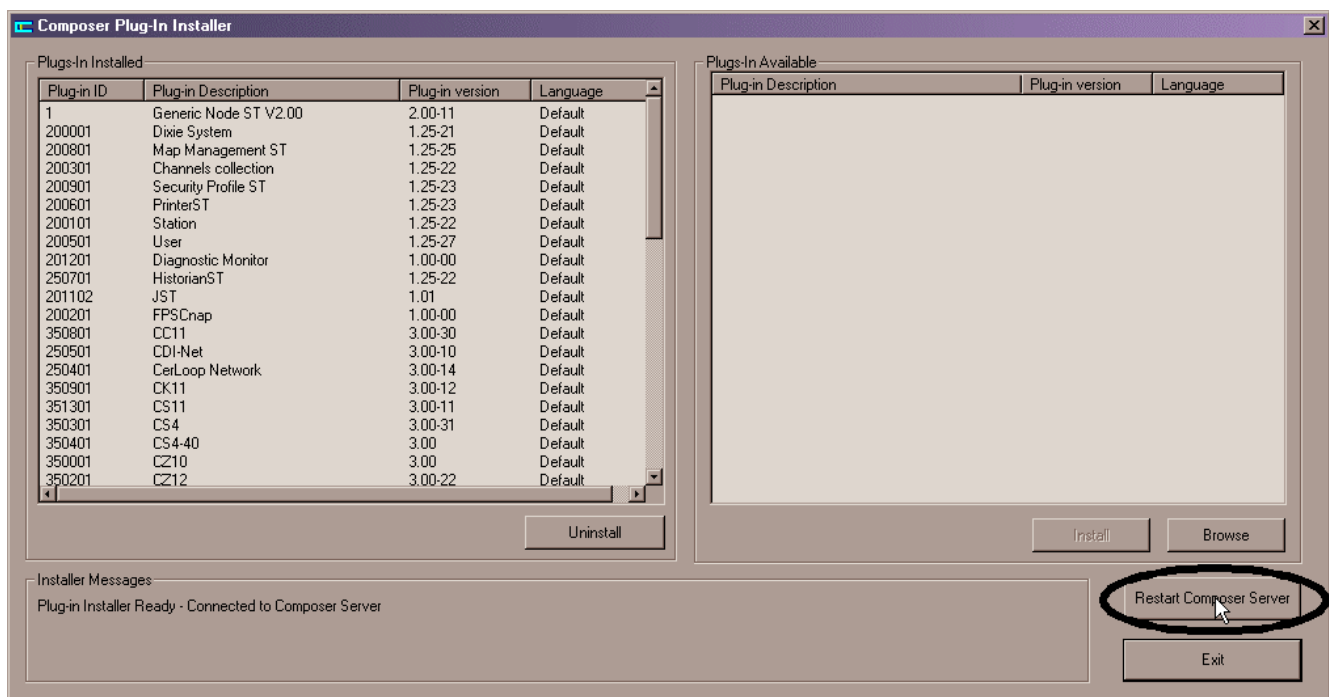

Fig. 1 Restart Composer Server
2. Restart the Composer Server (see Fig. 1 below).